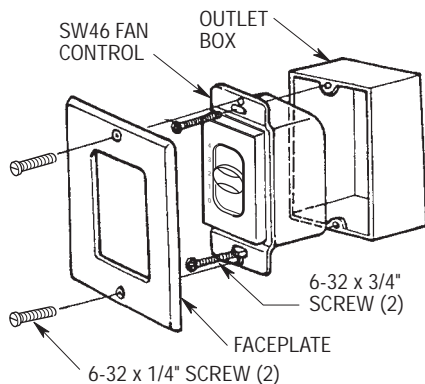

Figure 18
- 8. Position the faceplate (provided with control) onto the speed control. Using the two 6-32 x 1/4" screws, screw the faceplate and speed control to the wall outlet box (Figure 18).